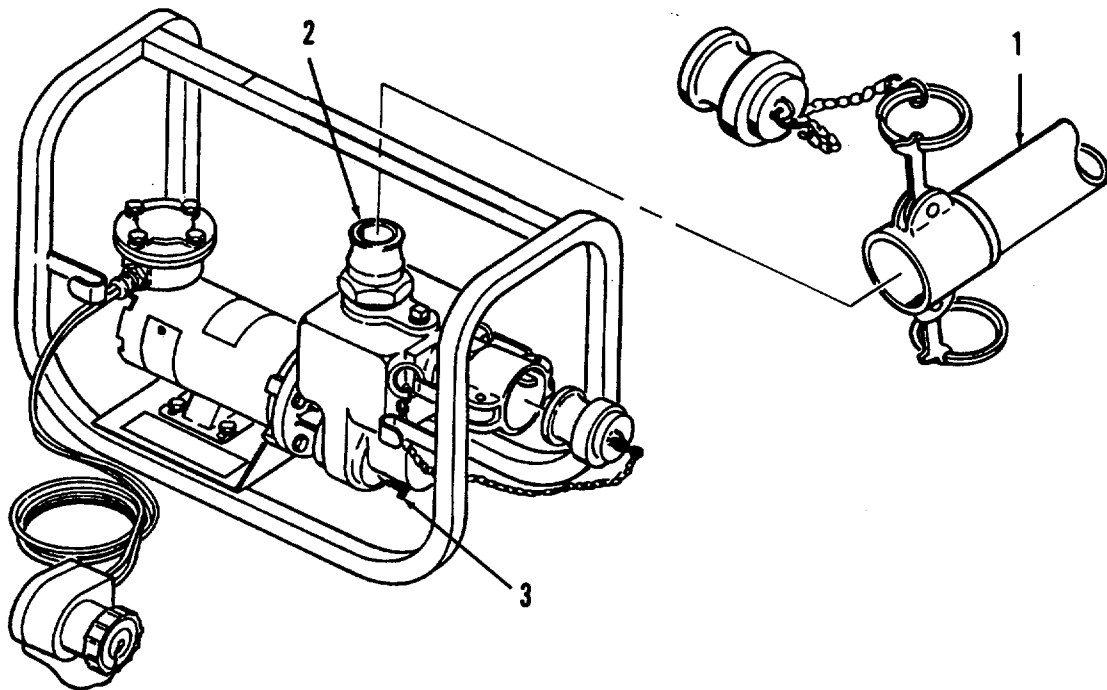

Figure 2-4. Priming Pump.
a. Priming the Pump. Although the centrifugal pump used in the pump assembly is a self-priming pump, it is self-priming only after an initial prime is provided during its first start up. Pump must again be initially primed if pumping assembly is disassembled. To initially prime the pump, perform the following steps. (Refer to Figure 2-4.)
- (1) Disconnect the discharge hose assembly (1) from pump discharge outlet (2) on top of the pump assembly.
- (2) Check that drain cock (3) is closed.